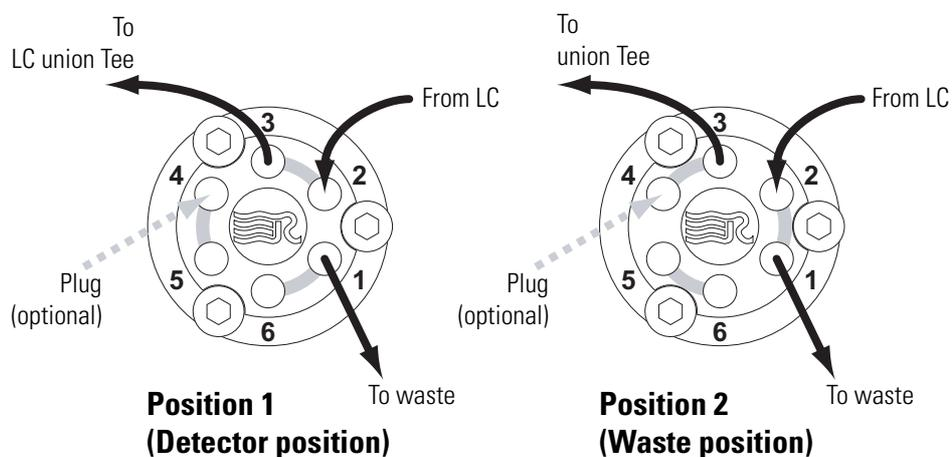
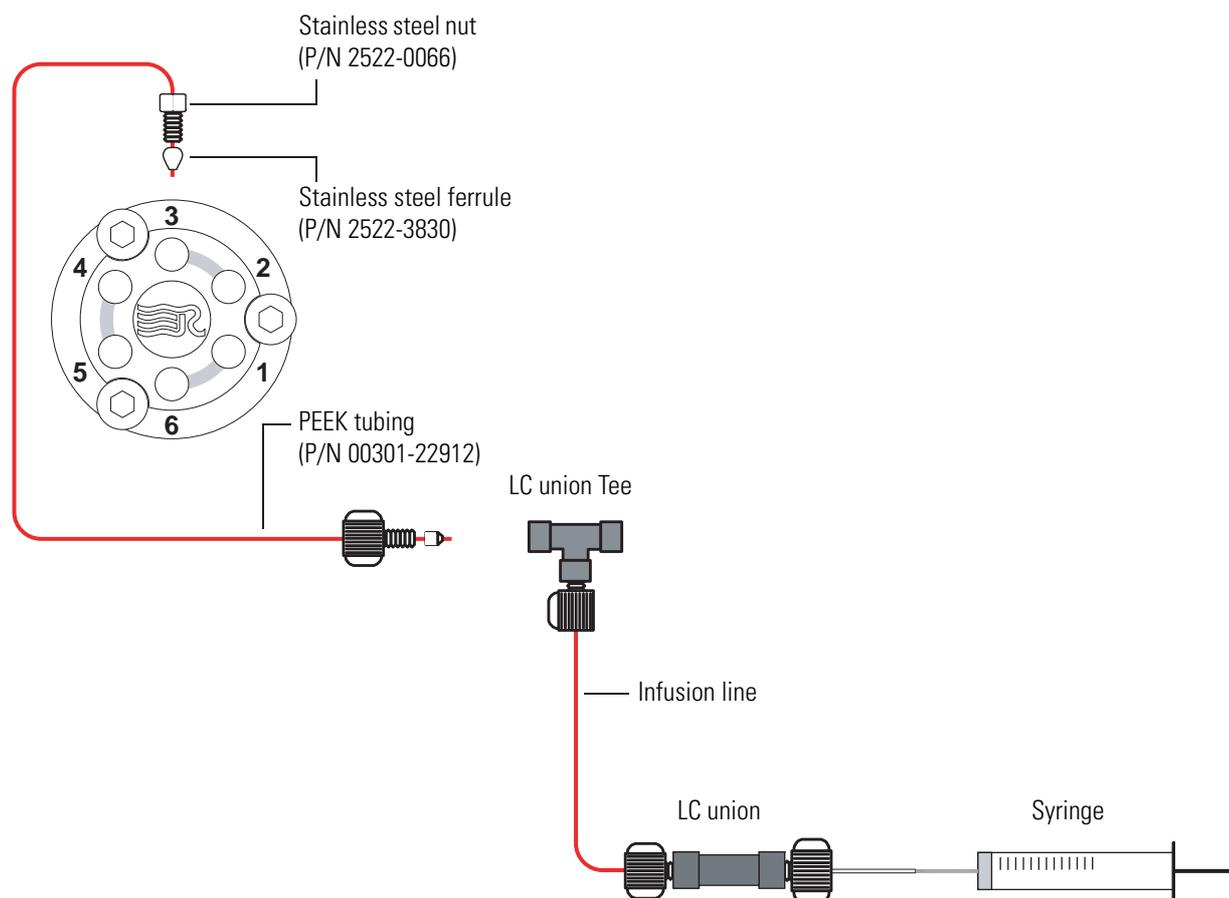

Figure B-5. Six-port switching valve connections
Figure B-6. Connecting the LC union to the union Tee
- Using a fingertight fitting and a ferrule, connect the other end of the tubing to the free end of the union Tee. See Figure B-5 and Figure B-6.
1. Using a fingertight fitting and a ferrule, connect a length of PEEK tubing to port 2 of the switching valve. Figure B-5 on page B-11 shows the ports of the switching valve.
1. Using a fingertight fitting and a ferrule, connect a length of red PEEK tubing to port 1 of the switching valve. Figure B-5 on page B-11 shows the ports of the switching valve.